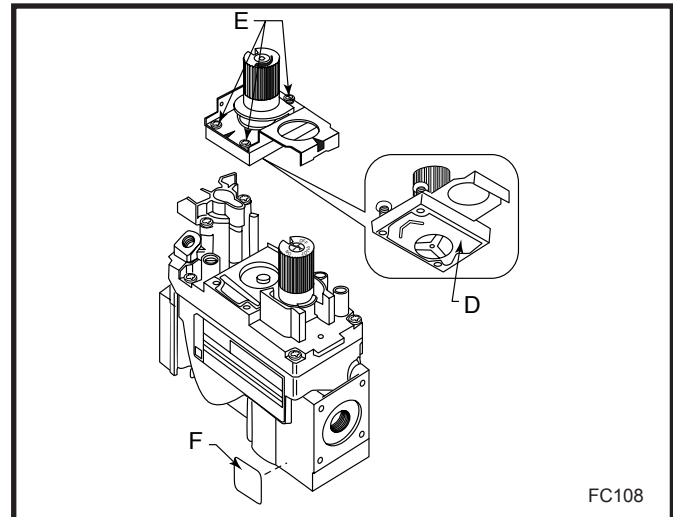

Fig. 75 Replace regulator.
2. Insure the rubber gasket (D) is properly positioned and install the new HI/LO pressure regulator assembly to the valve using the new screws (E) supplied with the kit. Tighten the screws securely. (Ref. torque = 25 in/lb) (Fig. 75)
3. Install the enclosed conversion label (F) to the valve body where it can easily be seen. (Fig. 75)